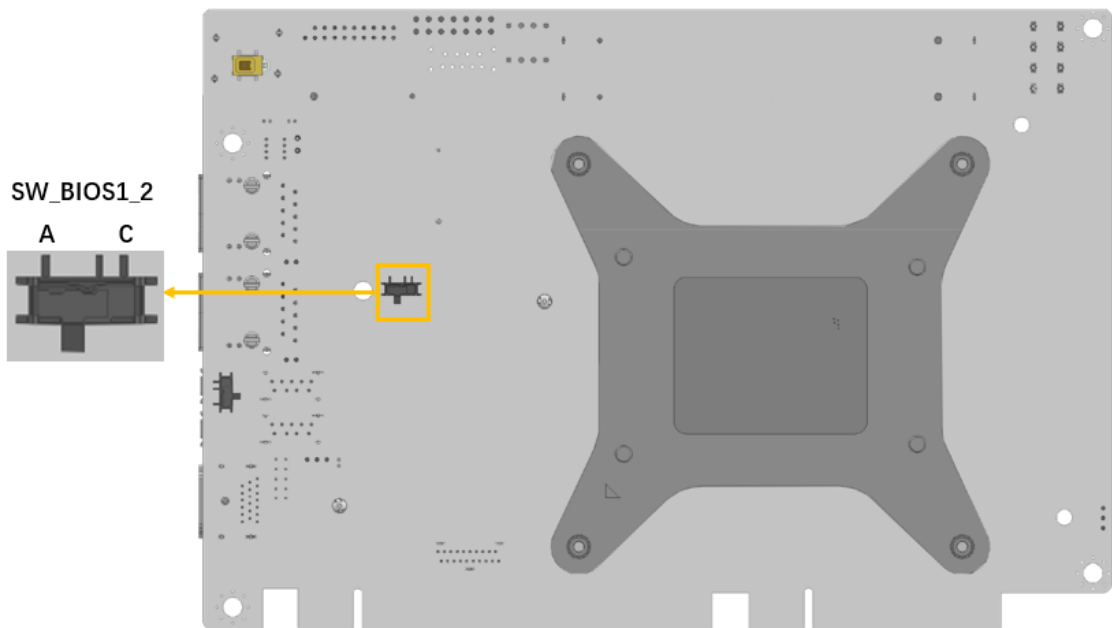

Figure 3-9: BIOS Switch Location
- CN Location:** See **Figure 3-9**